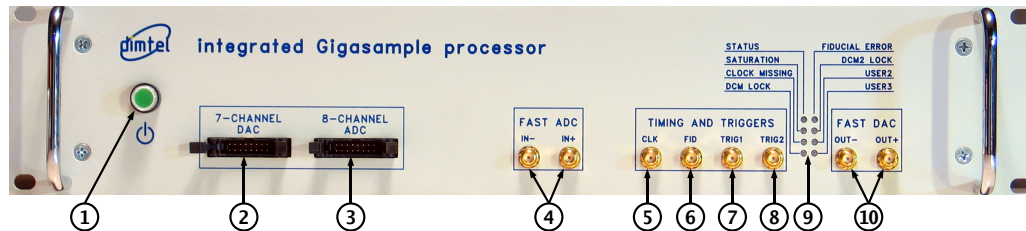

Figure 2: Front panel features
2. Connect RF clock at  $-3$  dBm nominal level (Fig. 2, item 5);
3. Connect single-ended high-speed ADC input signal to **Ain+** (Fig. 2, item 4). The FS swing of this signal should be 190 mV peak-to-peak;
4. Connect a  $50\ \Omega$  terminator to **Ain-** (Fig. 2, item 4);
5. Connect high-speed DAC output(s) (Fig. 2, item 10) to the appropriate back-end unit;
9. Push the power button (Fig 2, item 1) to turn on the system;
11. Push the power button (Fig 2, item 1) to turn the system off;
- Connect the 16-pin ribbon cable between the 7-channel DAC (Fig. 2, item 2) and the 8-channel ADC (Fig. 2, item 3);
- Connect 500 MHz clock to the RF clock input (Fig. 2, item 5);
- Terminate `Ain-` fast ADC input (Fig. 2, item 4);
- Terminate `Aout-` fast DAC output (Fig. 2, item 10);
- Make sure fiducial input is not driven (Fig. 2, item 6);